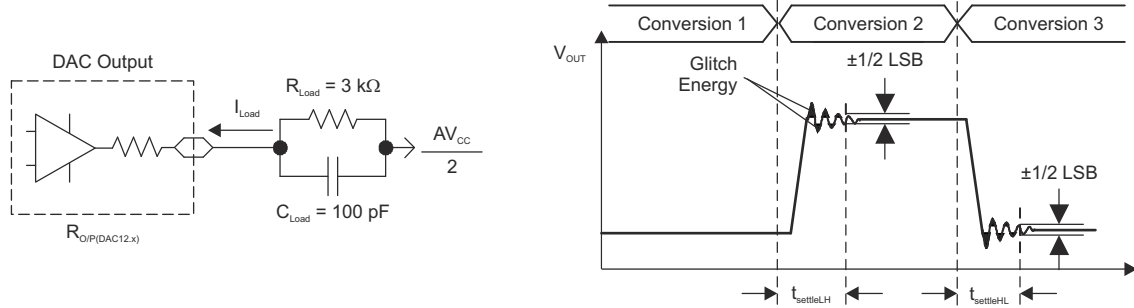
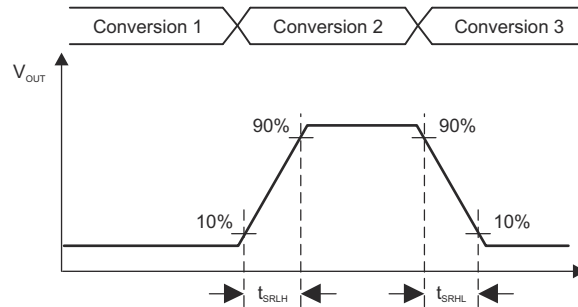

Figure 8-21. Settling Time and Glitch Energy Testing
Figure 8-22. Slew Rate Testing
V_{REF} = V_{CC}, DAC12IR = 1 (see Figure 8-21 and Figure 8-22), over recommended ranges of supply voltage and operating free-air temperature (unless otherwise noted)
- (1) R_{Load} and C_{Load} connected to AV_{SS} (not AV_{CC}/2) in Figure 8-21.
- (2) Slew rate applies to output voltage steps ≥ 200 mV.